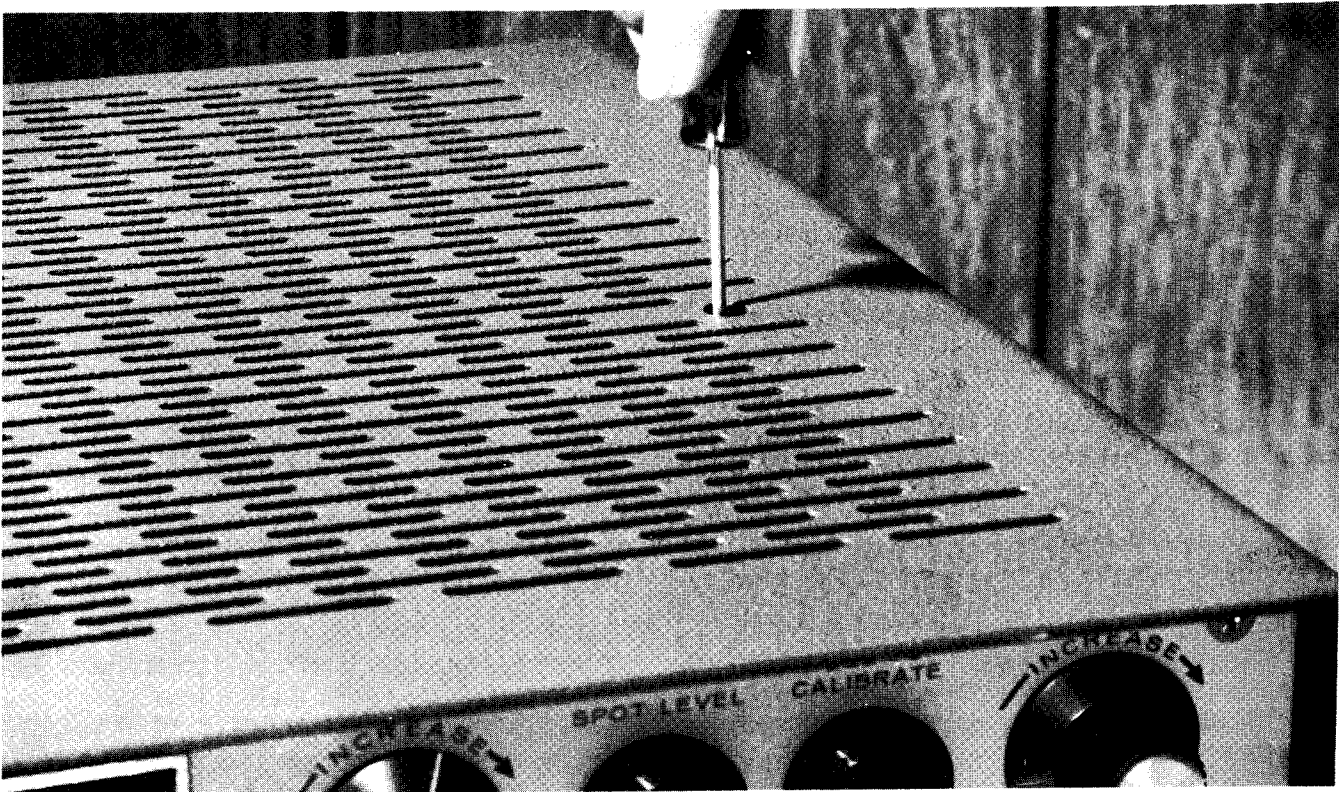

Figure 2-3. Capacitor C31 Location
c. Insert a small screwdriver through the special cut-out on the top right-hand side of the Model CX7 cover (refer to Figure 2-3 for exact location) and adjust capacitor C31 for a zero beat. This is best accomplished when WWV is transmitting a steady carrier. The zero beat is caused by 150th harmonic of the internal standard and the carrier of WWV.